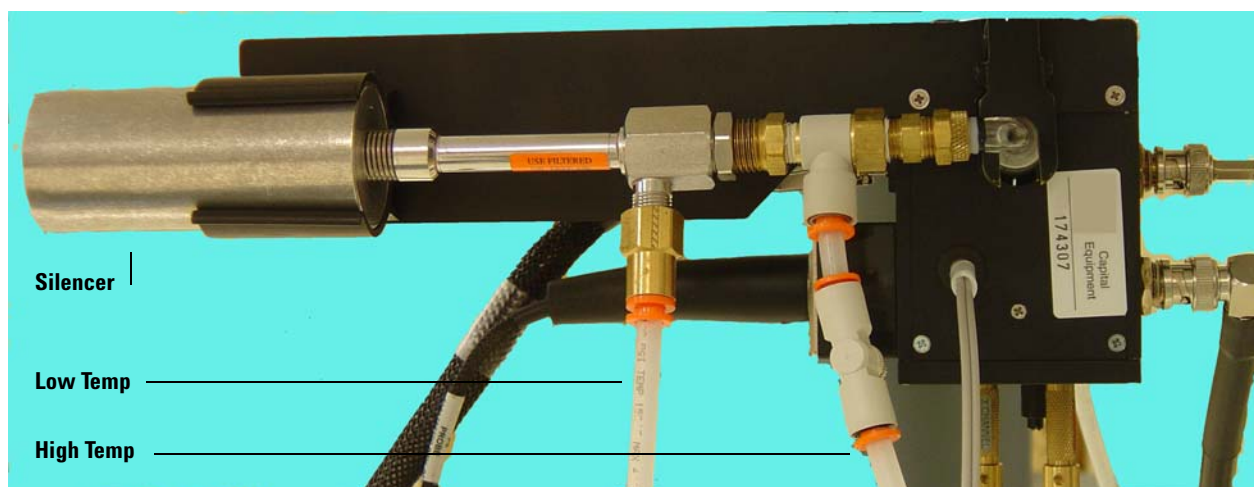

Figure 3 Probe gas connections
This section describes how to connect the Pneumatics Router to the Nanoprobe, see Figure 3.
- 2 Verify that the probe is attached to the pneumatics router and that the air lines to EZVT are properly attached, see Figure 3.
- a Remove the silencer from the EZVT assembly, see Figure 3.